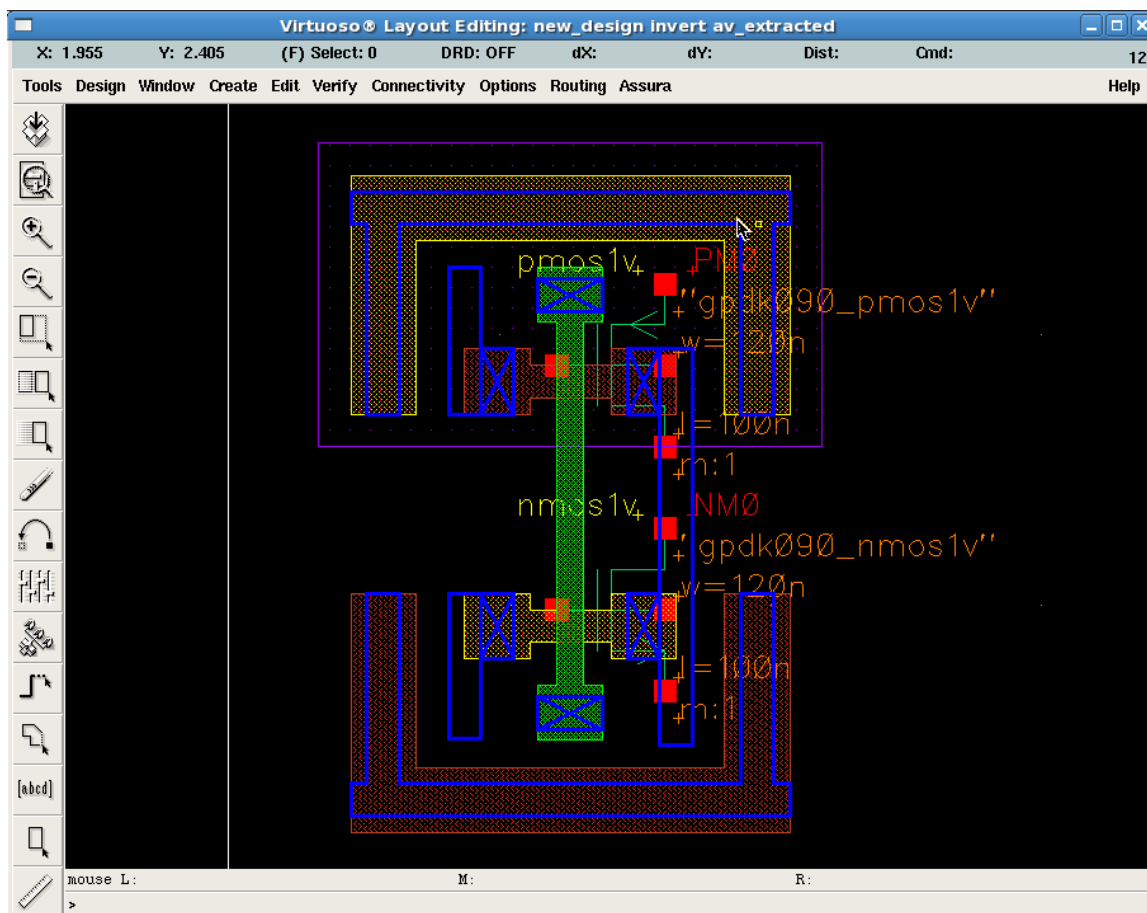

Fig.25
4. Click “OK” to start the Assura RC extraction. After the RC extraction is completed, a new view (“av_extracted” view, Fig 25) which contains not only the original components but also the parasitic devices will be generated and then can be used for post-layout simulation.